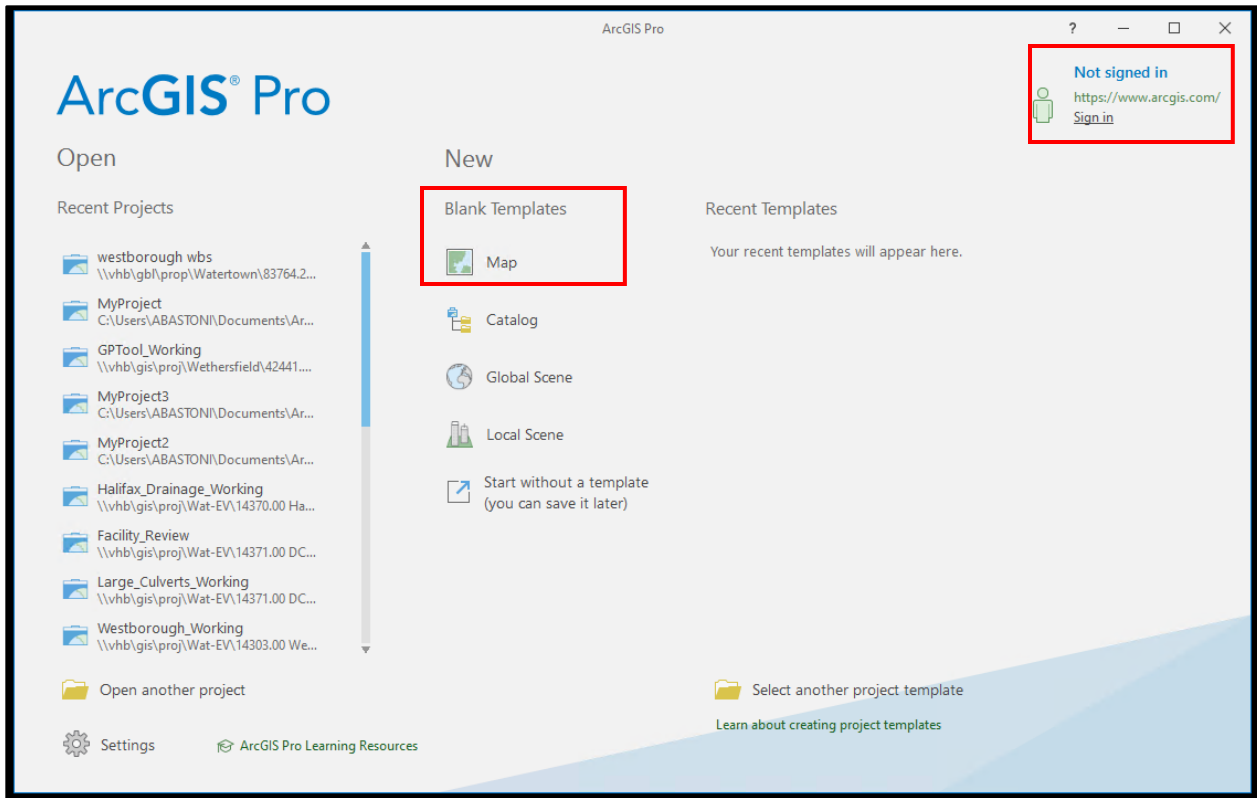

Figure 4. Opening a blank map in ArcGIS Pro.
- Open ArcGIS Pro and sign in using your ArcGIS Online account information. Open a Map from the Blank Template (Figure 4, below). Give your project a name, such as YourNameDrainageNetwork and click "OK"